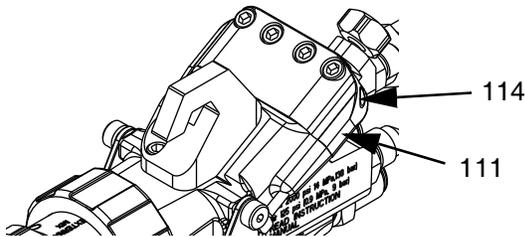
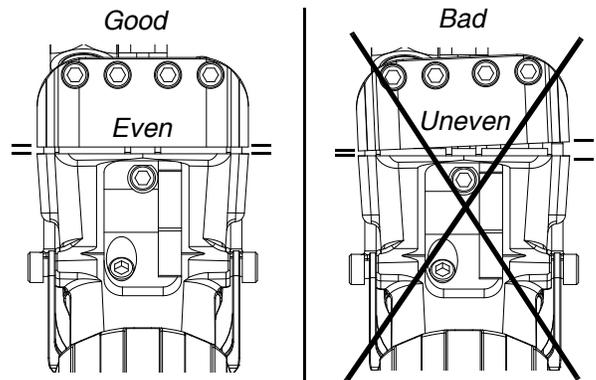

FIG. 11
FIG. 12
Perform this procedure if the trigger clamp pulls away from the gun body unevenly when the trigger is pulled, see FIG. 12. This procedure adjusts the actuator pins (111) in the trigger clamp, see FIG. 11.
**NOTE:** When installing the four finger trigger (16F627), ensure trigger lock functions and clamp assembly opens correctly, see FIG. 12. If any adjustments are needed perform this **Adjust Actuator Pin Adjustment Screws** procedure.
3. Use 5/64 in. allen key to remove adjustment screws (114).
11. Hold the trigger fully engaged and measure the space between the trigger clamp and the gun body on both sides. The gaps should be at least 0.065 in. (1.65 mm) in the open position. Adjust screws as necessary. See FIG. 12.